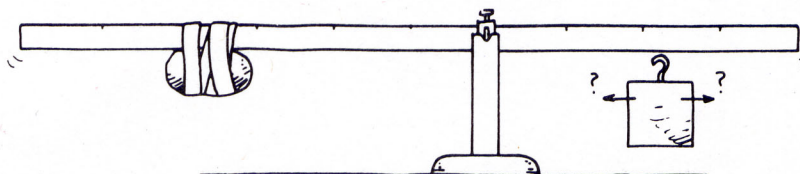

Figure 19.3
**Step 9.** If a rock is attached to your meterstick away from the midpoint, the new CG of the combined meterstick plus rock is not in the center. Use masking tape to attach the rock to the meter stick between the 0-cm and 50-cm mark. Move the fulcrum to the 60-cm mark, as shown in Figure 19.3. Hang a known mass between the 60-cm and 100-cm mark to balance the meterstick. Record the mass used and its position.